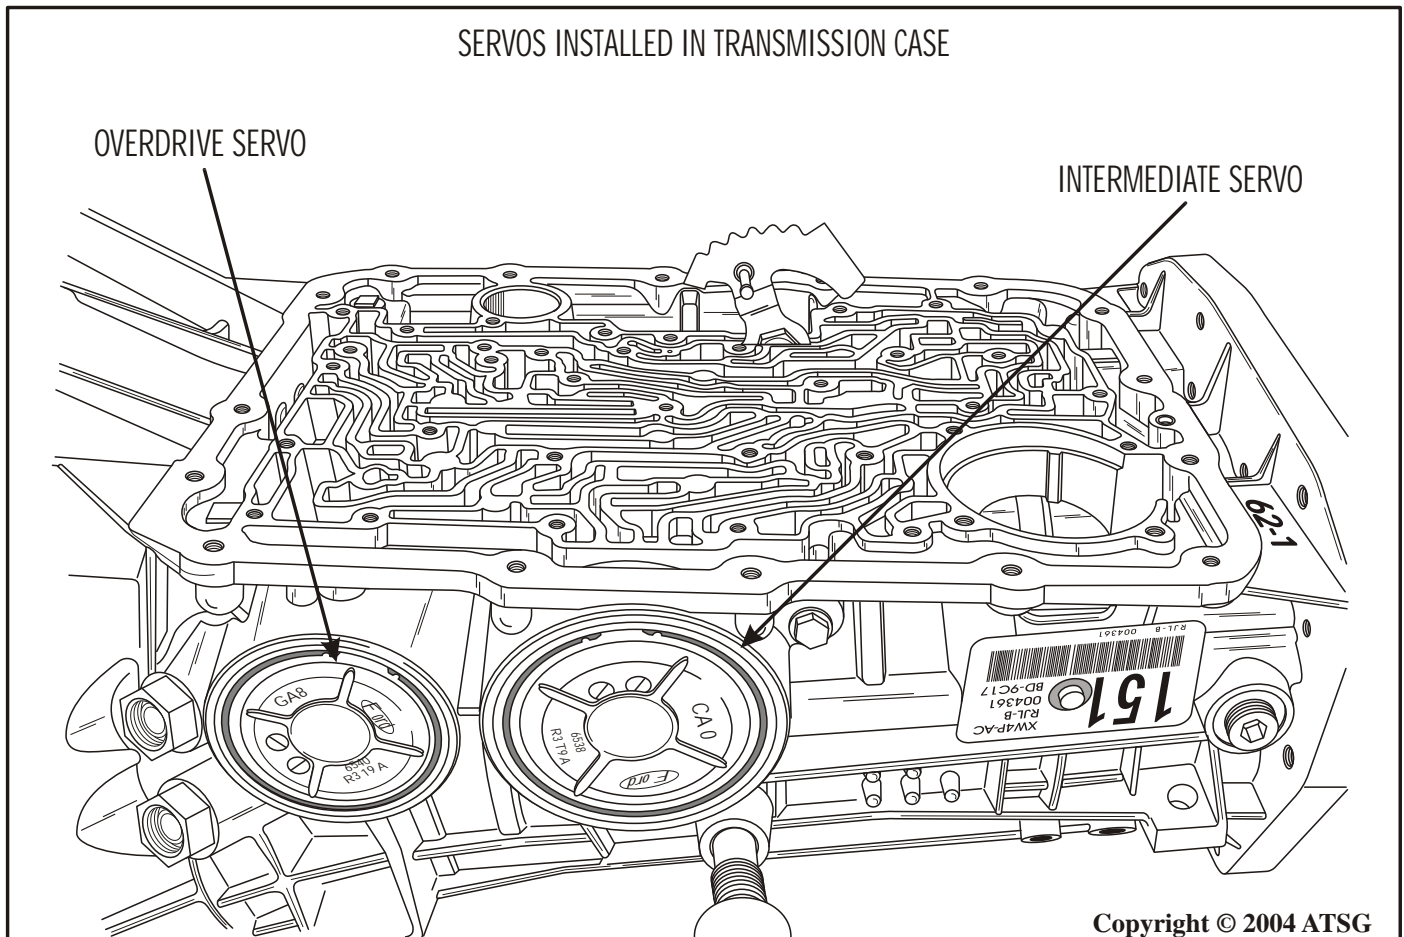

Figure 134
7. Install the transmission case into the fixture and rotate so that pan surface is facing up, as shown in Figure 134.
11. Install the overdrive servo cover assembly into the case bore, compress the return spring and install the snap ring (See Figure 134).
17. Install the intermediate servo assembly into the case bore, compress the return spring and install the snap ring (See Figure 134).